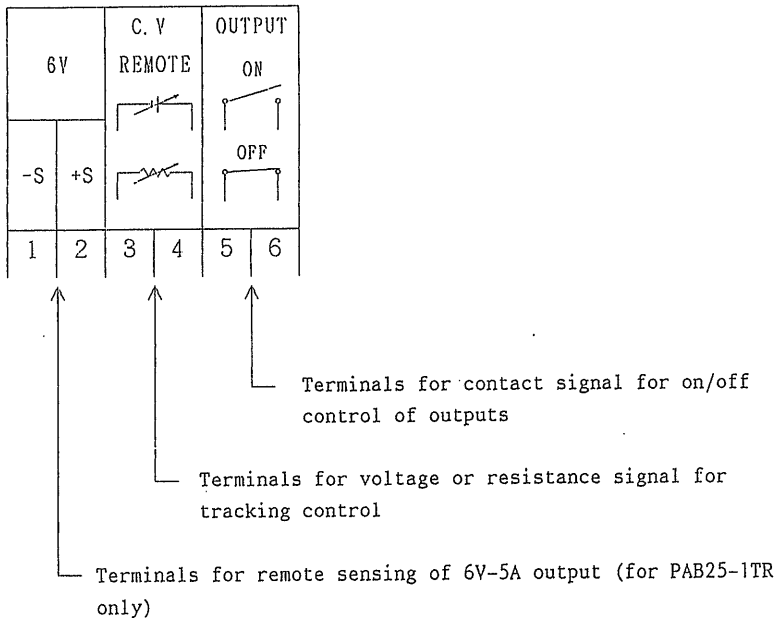

Figure 2-14. Rear Terminals
- (1) Turn the TRACKING dial to the full clockwise position.
- (2) Set at the desired voltages the "+" and "-" outputs with the "+" and "-" MAX ADJ potentiometers, respectively.
- (3) Turn off the POWER switch.
- (4) Connect a voltage signal between rear terminals 3 and 4 as shown in Figure 2-14.
- (1) Turn off the POWER switch.
- (2) Connect a 100 k Ω potentiometer between rear terminals 3 and 4 as shown in Figure 2-14.
- (3) Set the C.V CONT LOCAL/REMOTE switch to REMOTE and the V/R switch to R.
- (4) Turn on the POWER switch.